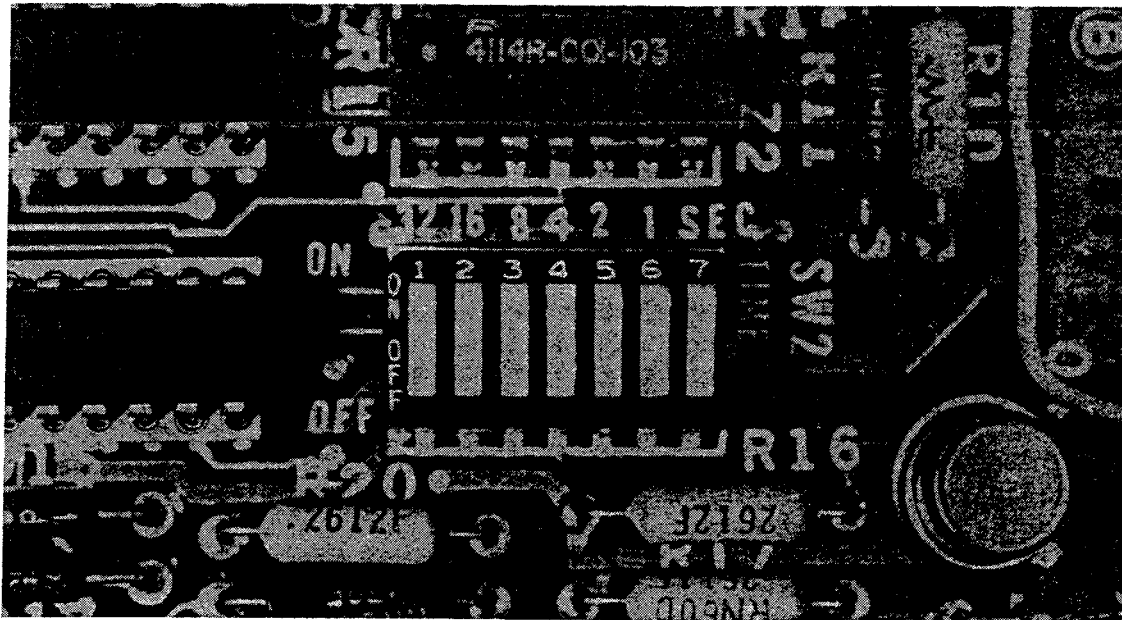

FIGURE 6 - MAXIMUM ACCELERATION TIME SWITCH
- B. Once the desired value is known, the combination of switches on the LRA time adjustment which adds to this value should be switched to the "ON" position (see Figure 6).